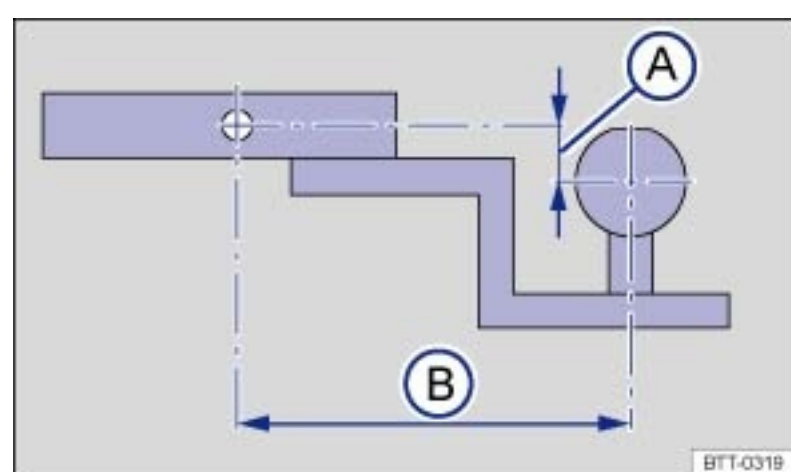

Fig. 107 Dimensions of the ball mount support.
The receiver used requires both a ball mount and a ball that meet special requirements regarding geometry and size. This applies to both the height of the ball above the surface where it attaches → Fig. 107 ① , and the pin-to-ball distance → Fig. 107 ② .